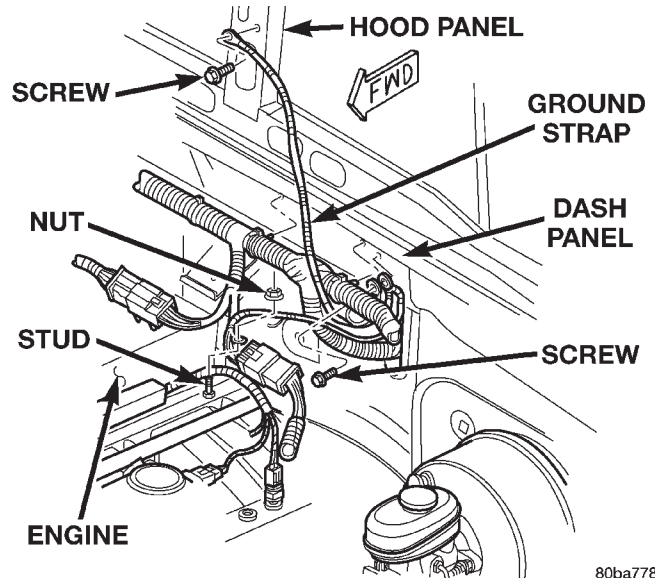

Fig. 10 Engine-To-Body Ground Strap Remove/Install
(1) Remove the screw that secures the engine-to-body ground strap eyelet to the hood panel center reinforcement (Fig. 10).